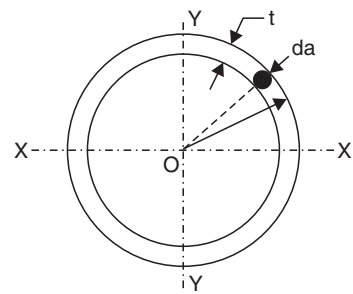

Fig. 5.16
**8. Moment of inertia of a thin ring.** Fig. 5.16 shows a ring of mean radius  $r$  and of thickness  $t$ . Consider an elemental component  $da$  of the lamina. The moment of inertia of this elemental component about the polar axis of the lamina =  $dar^2$ . Since all the elemental components are at the same distance  $r$  from the polar axis, moment of inertia of the ring about the polar axis,